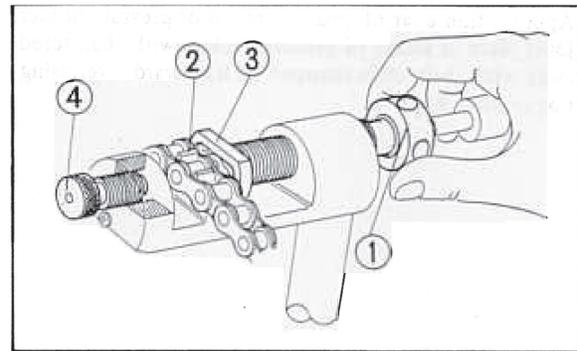

Fig. 5-57 (1) Pressure bolt (2) Chain holder (3) Pressure holder (4) Adjuster bolt
1. Position chain link pin to be cut on chain holder in place as shown in Fig. 5-57. Screw in pressure bolt until pressure holder holds chain in position. Back off adjuster bolt so that it does not interfere with chain.